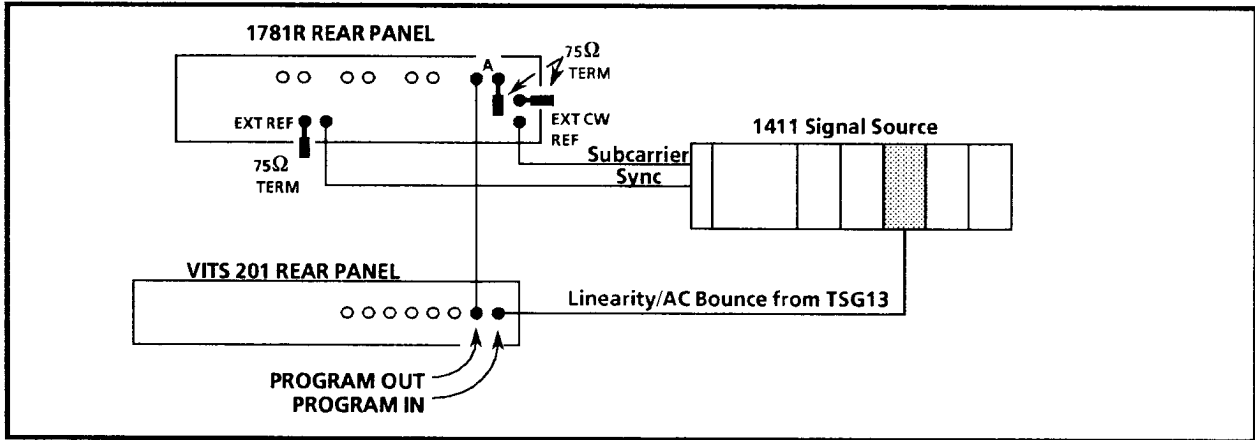

Figure 6-7. Equipment connections to check Phase Change with Incoming Signal APL Change.
- a. Connect the equipment as shown in Figure 6-7.